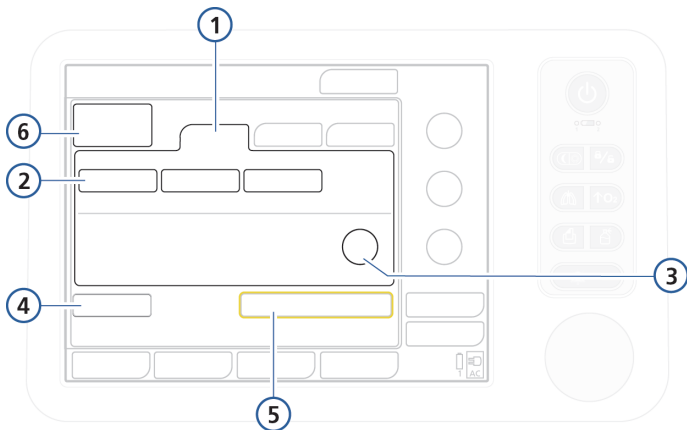

Figure 5-2. Neonatal patient group
1. In the Standby window, touch the **Neonatal** tab. See Figure 5-2.
In Figure 5-2, they are labeled **Neonatal 1**, **Neonatal 2**, and **Neonatal 3**. (The button names can be changed during configuration.) These settings are defined in configuration (Section I.6). Quick setups allow you to specify default options, including the ventilation mode to use.